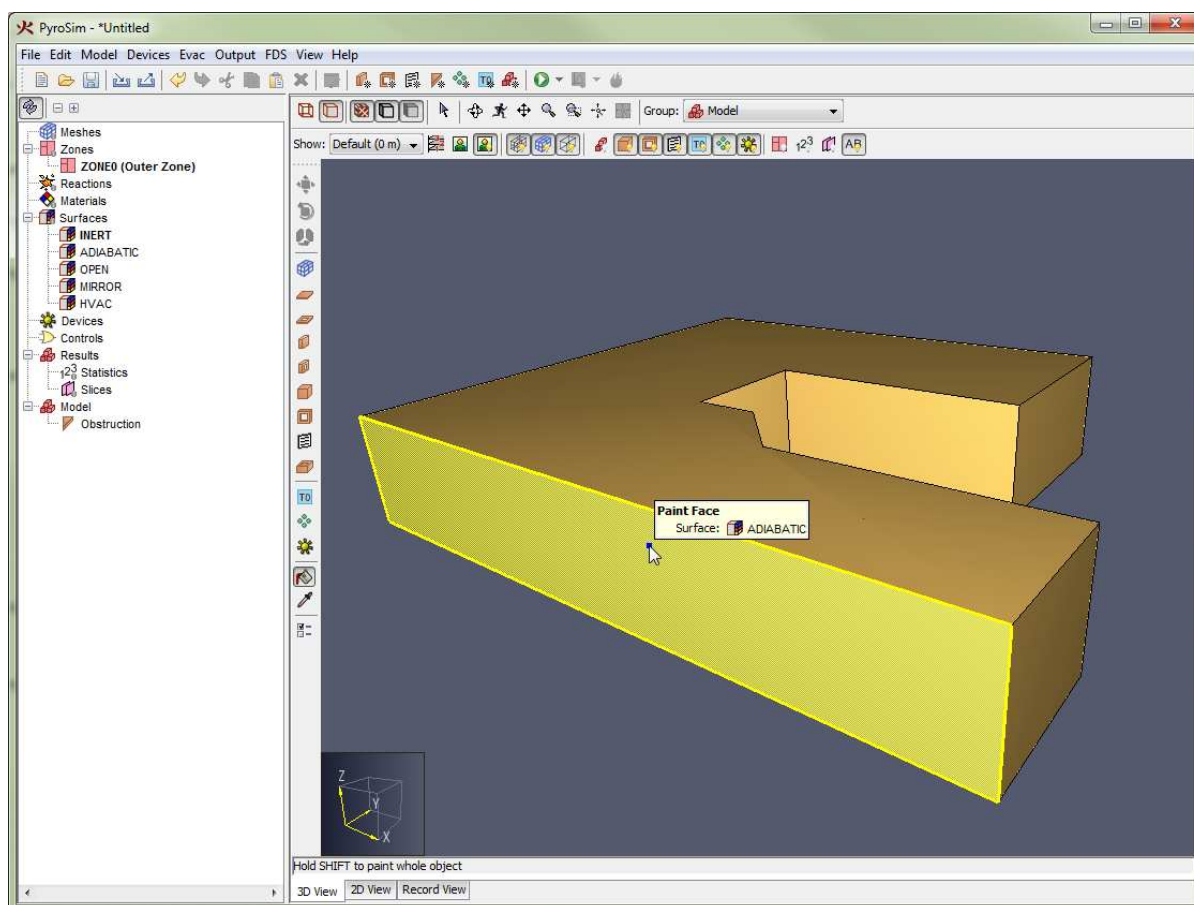

Figure 98. An obstruction face highlighted by the paint tool
2. Hover the cursor over the desired face to paint. If the face can be painted with the current surface/color, the face will highlight yellow as shown in Figure 98.